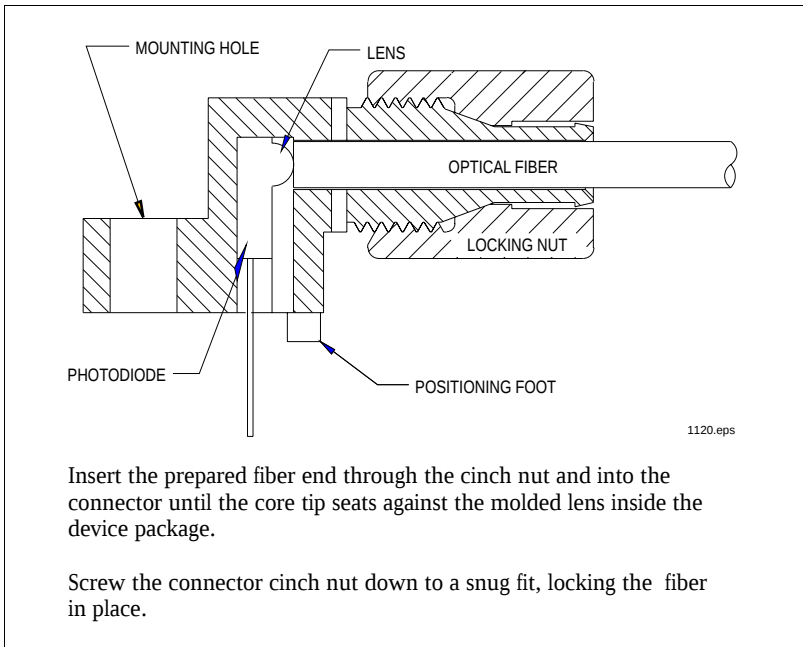

Figure 4. Cross-section of fiber optic LED and cable.
- A10. Connect the transmitter and receiver assemblies with the optical fiber, following the steps in Figure 4. Move the transmitter and receiver printed wiring boards as far apart as the fiber length will allow.